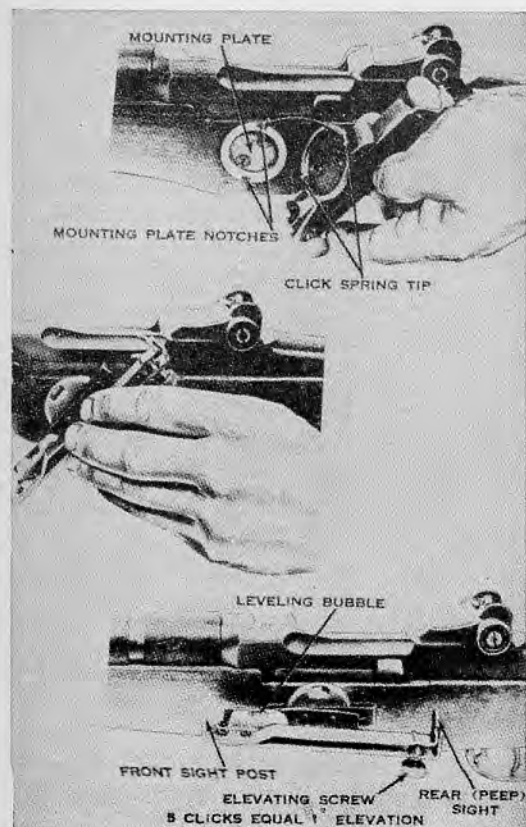

Figure 28.3. M15 grenade sight.
3. RIFLE GRENADE SIGHT M15 (Figure 28.3). The M15 sight provides angular measurement of elevation for firing rifle grenades. It can be used for low angle (direct fire) and high angle firing. The two main parts are the mounting scale plate and the sight bar assembly. Two wood screws secure the mounting scale plate to the left side of the rifle stock. The lip of the mounting plate has two identical sets of calibrations in 5° increments from 0° to 60° . Serrations on the lip permit click measurements of 5° changes in elevation. The sight bar assembly is five inches long and consists of a front sight post, a rear peep sight mounted on a sight leaf, a leveling